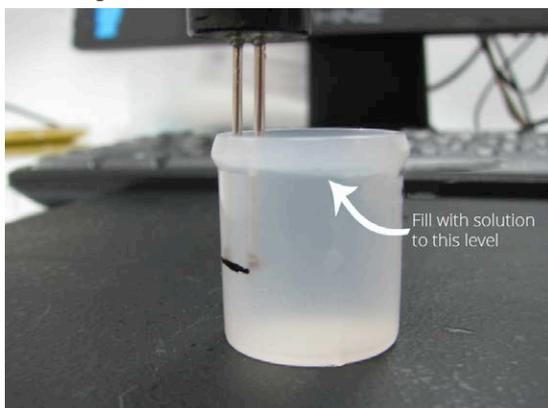

Fig. 33 — The vial should be filled to a volume of 5mL.
2. Fill (6) 5mL vials (WPI #**14176**). Dispense 5mL of each concentration into each of the six vials. It might be useful to label each of the vials with the concentration to avoid confusing them when performing the test (Fig. 33).